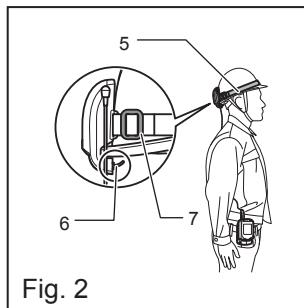

Fig. 2
**Assembly (Fig. 2, 3, 4)**
### **Montage (Fig. 2, 3, 4)**